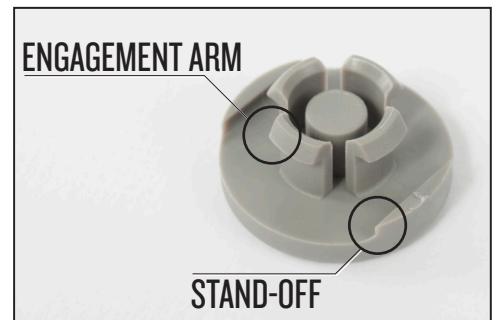
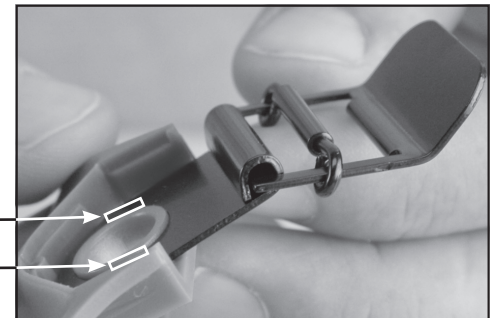

Figure 1
Figure 2
Note the 4 small engagement arms and hooks. When inserting into the mask, be careful to make sure that all 4 go evenly into the mounting hole. If not done carefully, it is possible for 1 or more of the legs to slip out of the hole when inserting, and possibly damaging the part. See Figure 1.
The underside of this part also has 2 small spacing stand-offs. These should be aligned with the sides of the buckle mount tab and Not the rounded end of the tab, when installing. Once this plug is properly installed, the stand-offs can be aligned anywhere. See Figure 1 and Figure 2.
- 1) Place P/N 845-001, Metal Buckle onto the mask jaw frame as shown, making sure the release tab of the buckle is pointing **AWAY** from the center of the mask. See Figure 2.